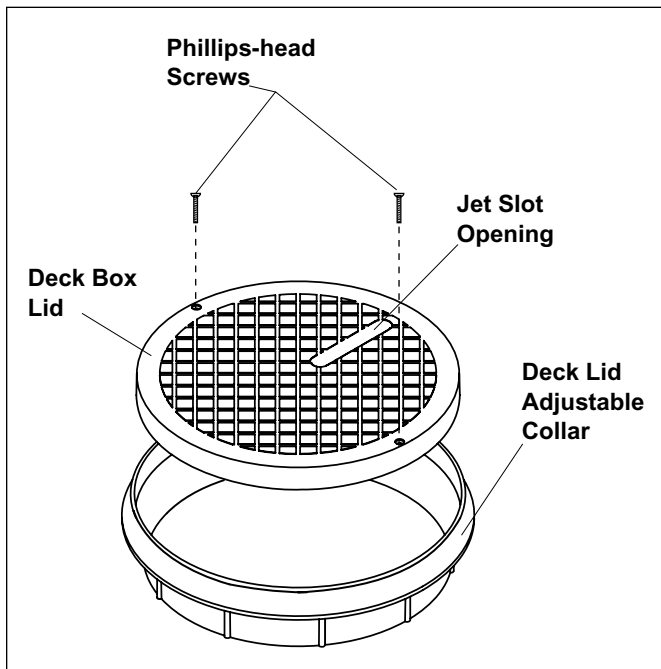

Figure 6. Deck Box Lid with Collar
**NOTE** To adjust the angle of the jet, lift the Deck Box lid and move the Laminar Jet up or down to increase or decrease the angle. The angle can be adjusted approximately 15 degrees. The Laminar Jet is installed on two pivots. Loosen the union nuts on the pivots and adjust the jet angle. Once you are satisfied with the angle and location of the jet, tighten the union nuts. Secure the Deck Box lid to the Deck box collar, using two #10 by 1½", Phillips, flat head stainless steel screws (see Figure 6). It is recommended to drill 1/8" pilot holes in the lid. Then the screws can be threaded into the holes. This will complete the installation and secure the jet from movement.